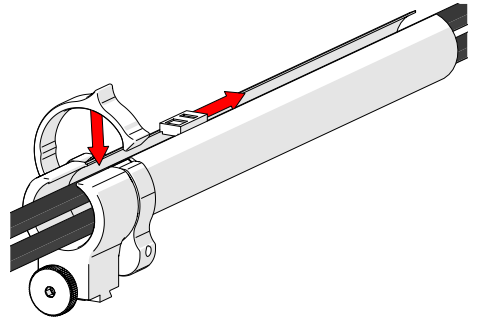

Fig. 151 - Zip up to close
2. Follow the cable placement zipping the tube closed (*Fig. 151*).